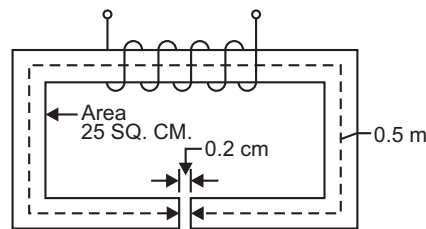

Fig. 8.22
9. The magnetic circuit of Fig. 8.22 is energised by a current of 3A. If the coil has 1500 turns, find the flux produced in the air gap. The relative permeability of the core material is 3000. [ $65.25 \times 10^{-4} \text{ Wb}$ ]